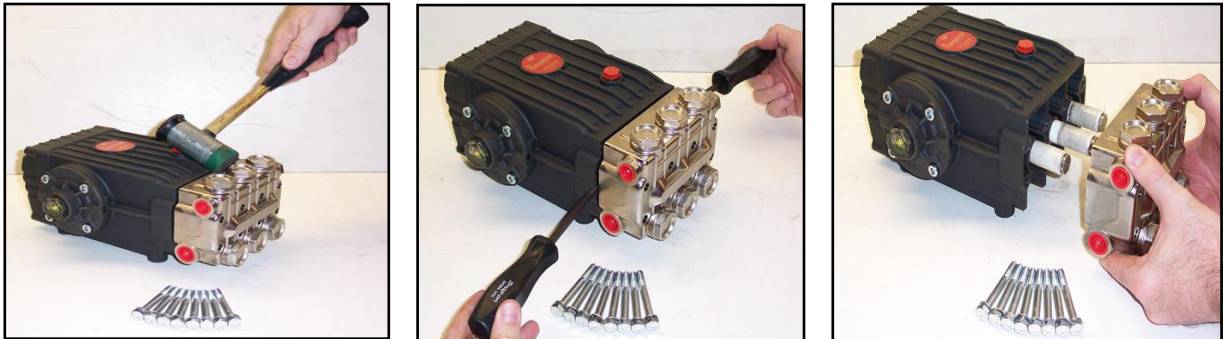

Figure 6. Separate Manifold from Crankcase
11. Separate manifold from crankcase (see Figure 6).